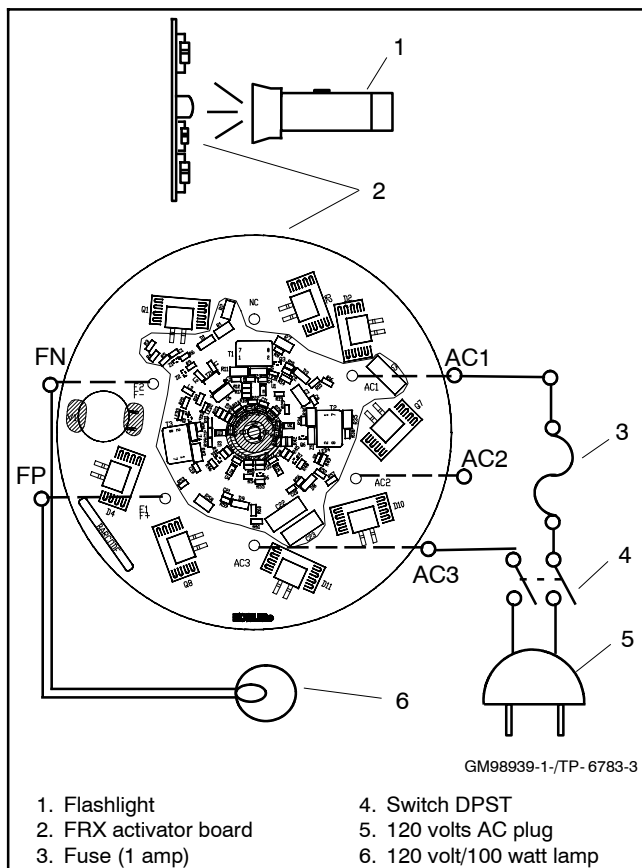

Figure 11-8 FRX Activator Board Test B
6. Connect components as illustrated in Figure 11-8, Test B.